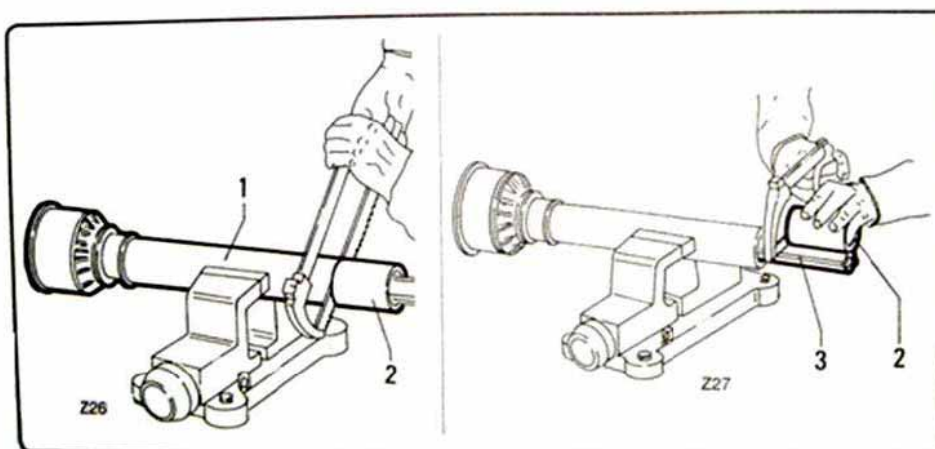

fig. 4.3.2
- When sawing part "1" (Fig. 4.3.2), use the length as shown above.